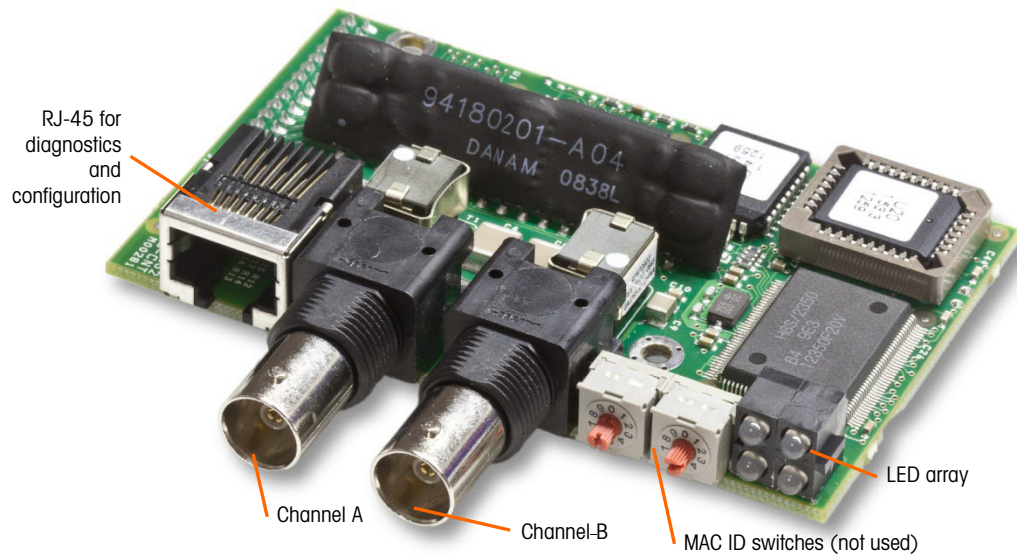

Figure 2-1: ControlNet PLC Module and its Components
Figure 2-1 shows the ControlNet interface module and its components.
- Do not plug an Ethernet cable into the RJ-45 connector shown at left in Figure 2-1. This connection is not used.